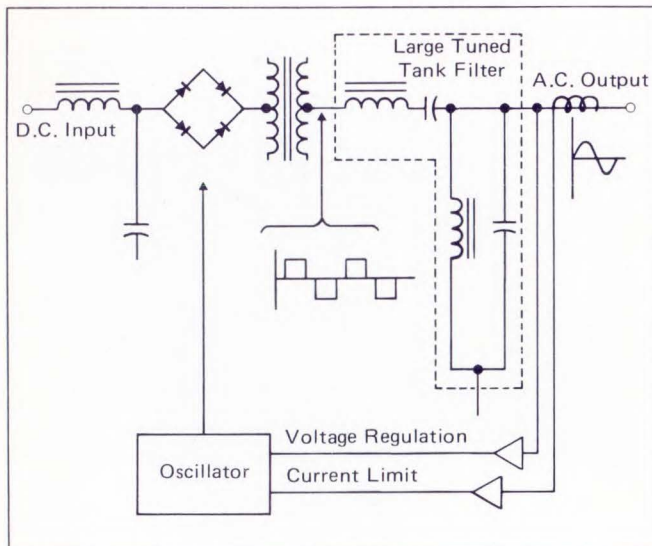

Fig 4 Quasi-square wave inverter.
**Quasi-square wave (Fig 4):** This approach is the simplest as it uses true electronic (rather than magnetic regulation). It has two square waves offset to produce a zero-third harmonic waveform. Regulation is achieved by changing the relation of the second square wave with respect to the first,